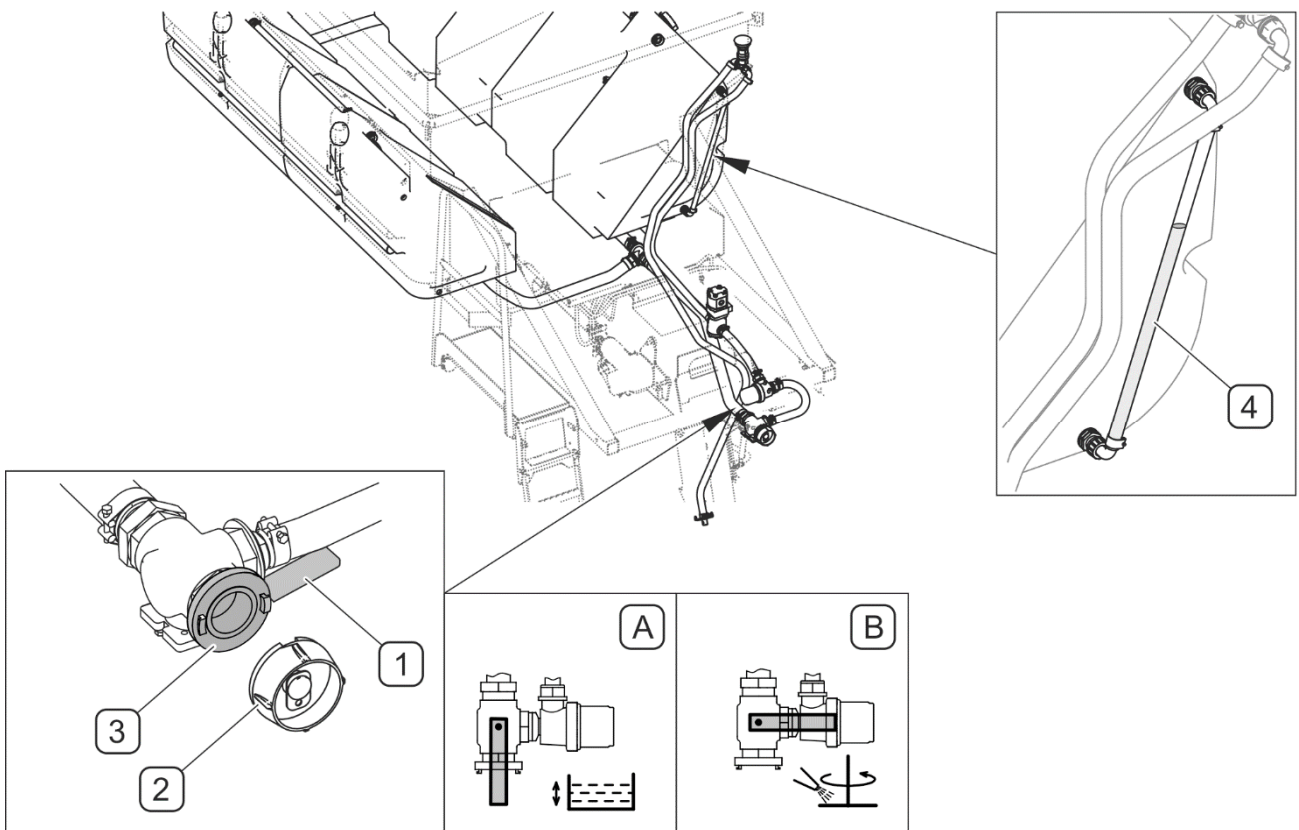

FIGURE 4.34 Emptying brine tanks
Before unscrewing plug (2), make sure that valve lever (1) is in position (B) (FIGURE 4.34).